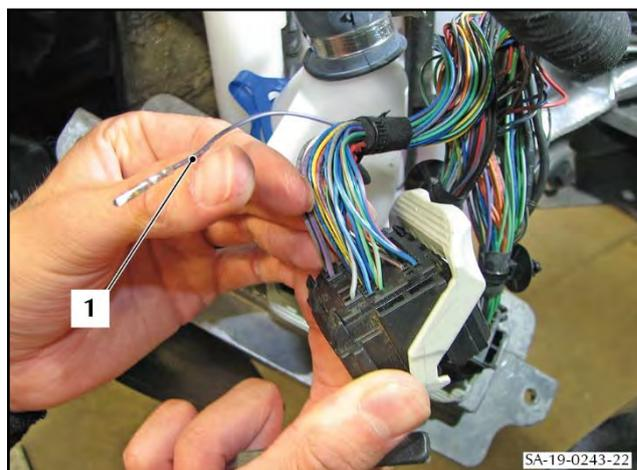

Figure 58
73. Use terminal removal tool 418-595 to remove terminal pin 41 from the connector housing (black/purple wire) (refer to Figure 58).